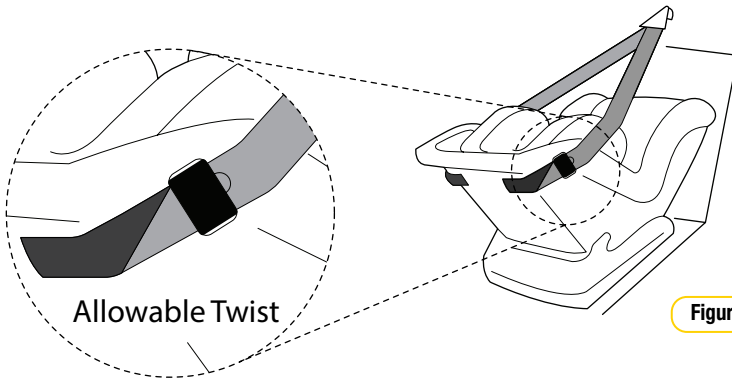

Figure 2
Step 1. The top tether will require a twist in the tether strap (refer to figure 2).
Step 2. The adjuster is positioned to enable the adjuster to face the rear passenger side door (refer to figure 2 and 3).